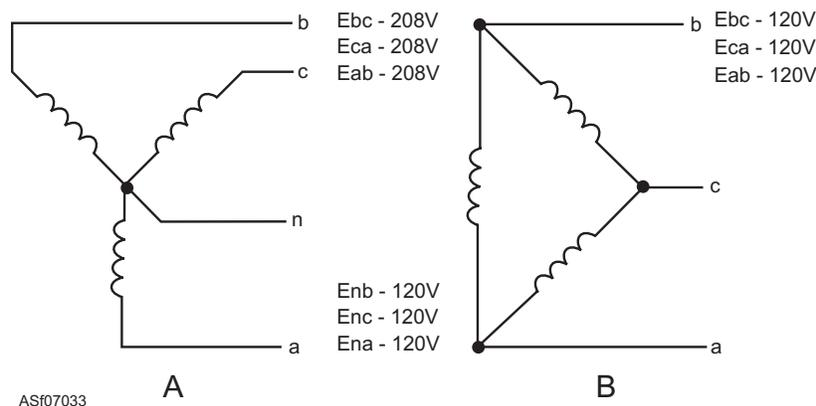

Figure 7-33.—Wye-delta voltage relationships.
power generating systems for servicing aircraft have outputs of 120 and 208 volts. These voltages are obtained by designing the generator to produce 120 volts per winding and connecting them in a wye system, as shown in view A of figure 7-33. The voltage between the neutral wire and any one phase is 120 volts. The phase-to-phase voltages are 208 volts. When a load is connected phase to phase, two windings are in series across it. The vector sum of the two generated voltages is 1.73 times the voltage of a single phase.
**WYE, DELTA, AND OPEN-DELTA SYSTEMS.**—Most three-phase distribution systems use the wye or delta connection. Compare the two circuits in views A and B of figure 7-33. The wye system has a distinct advantage over the delta system. The wye system has two voltages available. The lower voltage (120 volts) is extracted from the phase-to-neutral connection. The higher voltage (208 volts) is available from the phase-to-phase connection.
The three-phase ac generator is most commonly connected in what is called a *FOUR-WIRE WYE*. In this system the common connection for the phases, called *NEUTRAL*, is connected to ground. There is also a *THREE-WIRE WYE*, accomplished by connecting one of the phases to ground, usually the B phase. If this system is used, care must be taken to ensure that all three-phase equipment have the same phase grounded. Another method of connecting the phases is called *DELTA*. In this system, a common connection of two of the phases is grounded. Figure 7-33 shows the grounding of the three-phase systems.